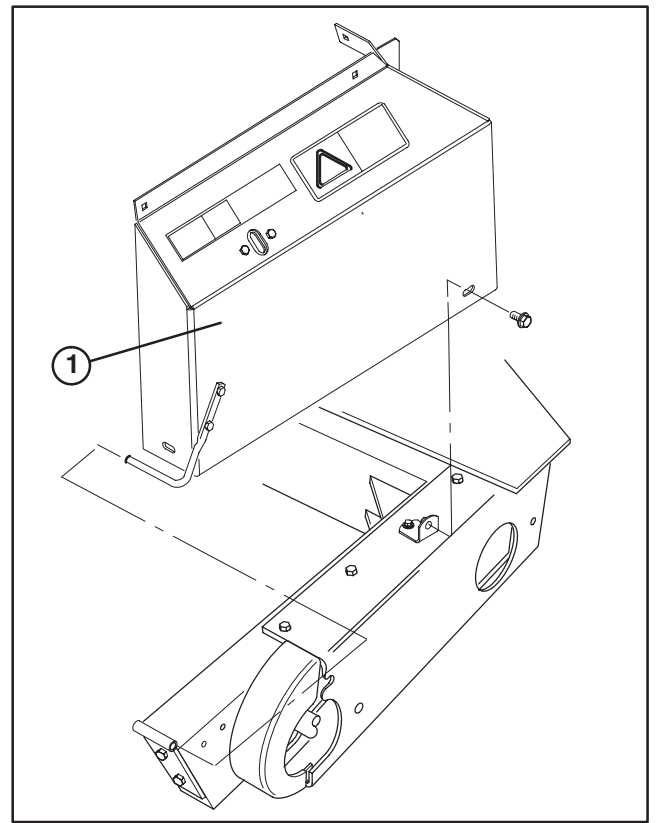

Figure 5
6. Position appropriate hood support (R.H. or L.H.) onto side rails, guiding transport support levers thru retainers in top of each support and hinge rods into hinges (Fig. 5). Align each hood support mounting hole with side bracket mounting hole and secure with a 3/8–16 x 3/4" lg. thread forming flange head cap screw.